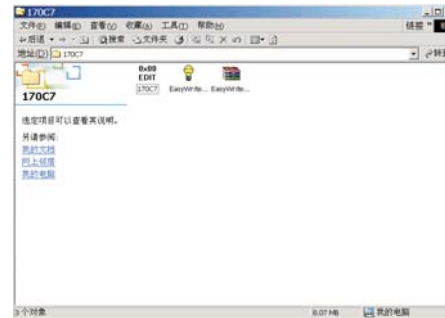

Fig. 5
Step 5 :Copy the hexcode 170C7 to C:\170C7 as shown in Fig. 5 .